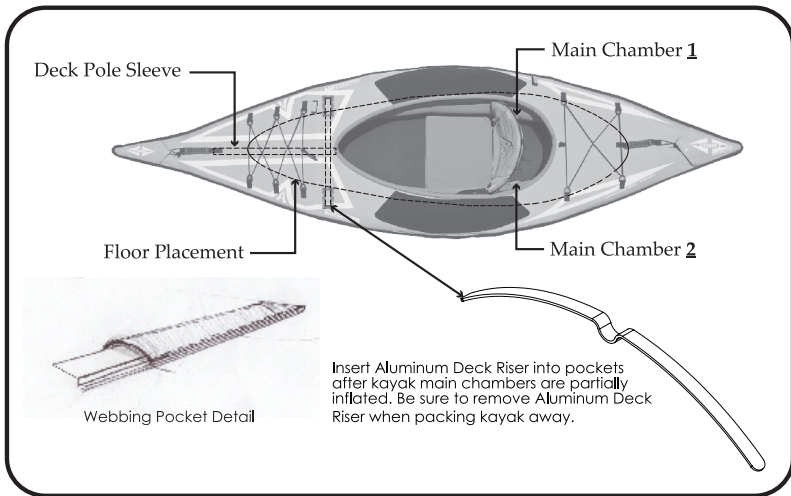

Figure 3. Inflation Chambers, Floor & Aluminum Deck Lift Installation
4. Install aluminum deck pole into the sleeve located on the underside of the kayak deck. (See Figure 3.)
5. Locate the small black pockets on the tube sleeves of the Main Chambers and install the Aluminum Deck Riser into the pockets. Orient it so that the notch aligns with the deck pole. (See Figure 3.)